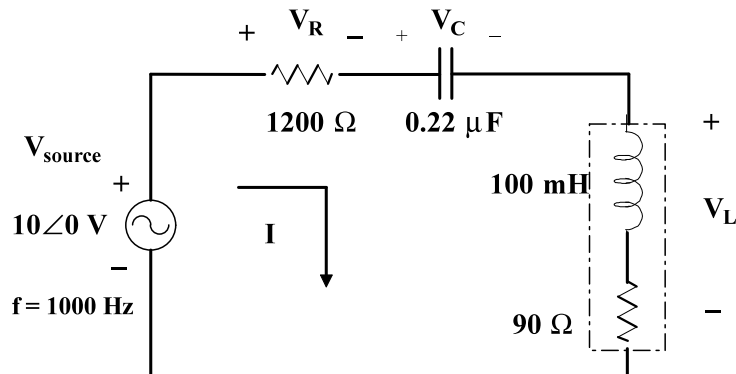

Figure 4.20 AC circuit for Part 4PE.
**Part 4PE:** Series *RLC* circuit. Consider the circuit of Figure 4.20.